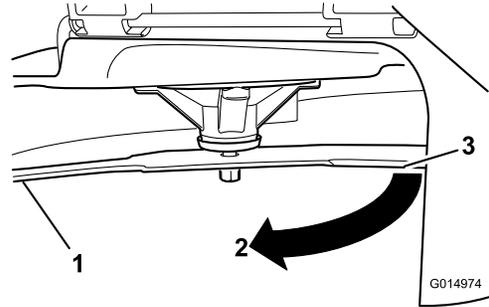

**Figure 87**
2. While wearing thickly padded gloves, or other adequate hand protection, slowly rotate the blade into a position that allows you to measure the distance between the cutting edge and the level surface the machine is on (Figure 87).